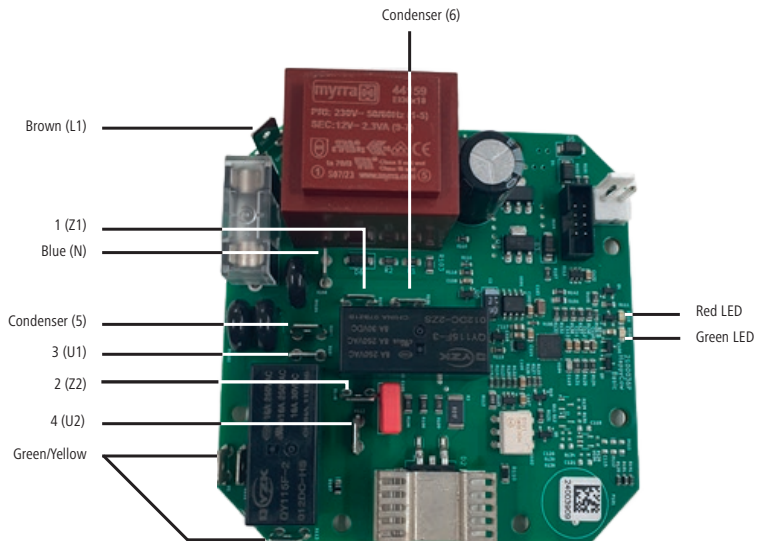

Figure 5: Circuit board connection diagram with capacitor - MaxiSwing
Fuse 6, 3 A on the circuit board has burned through or has come loose.	<ul style="list-style-type: none"> • Disconnect the control unit from the mains and secure it against being switched on again. • Check the secure position of the fuses. Replace defective fuses. (Fig. 5 – item 3+4) • If there is no indication on the display when restarting with replaced fuses, then the main board is defective.